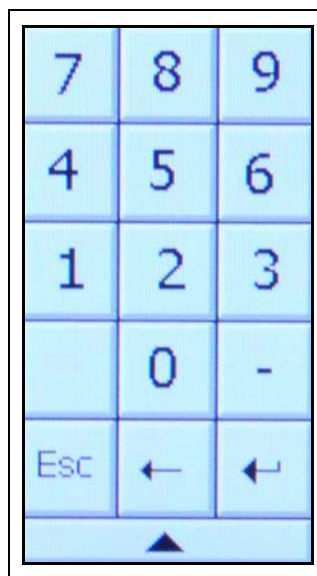

Figure 4R
2. Press the button under the "Homing Interval" label. A number keypad will display. (See Figure 4R.)